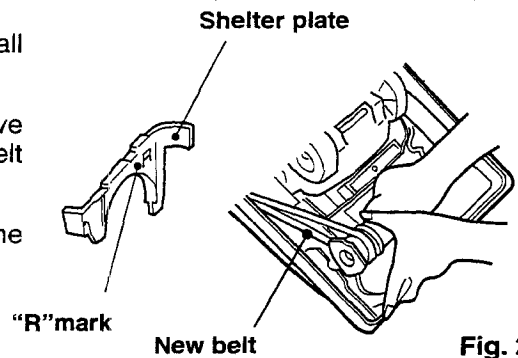

Fig. 29
- 3 Loop the new belt around the motor shaft and then loop it around the agitator pulley. (Fig. 29)